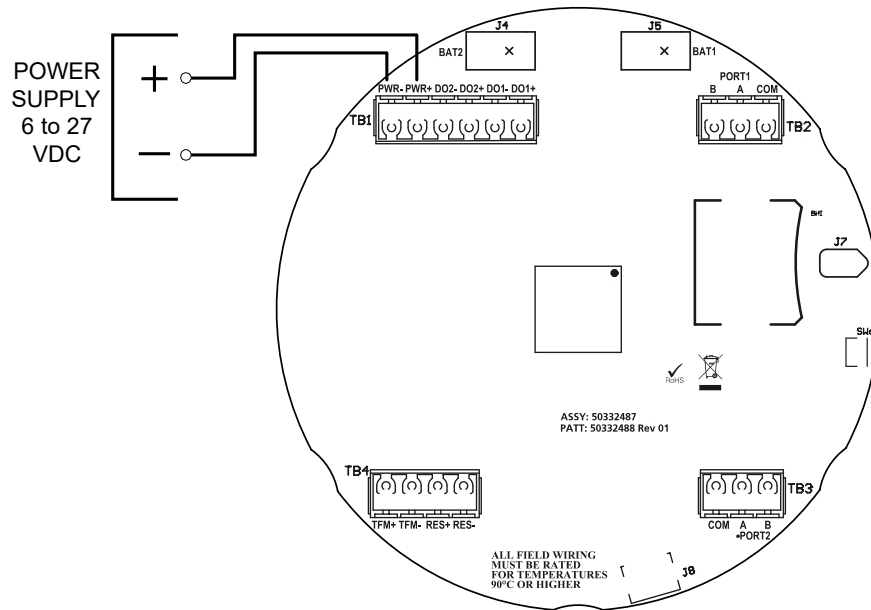

Figure 2.7—External power supply wiring
4. Connect wiring for external power, if appropriate. See Figure 2.7, page 41.
The MC Synergy WP can be connected to a remote power supply by a two-conductor cable (Figure 2.7, page 41). The power supply and cable must be capable of supplying 6 to 27 VDC @ 60 mA.